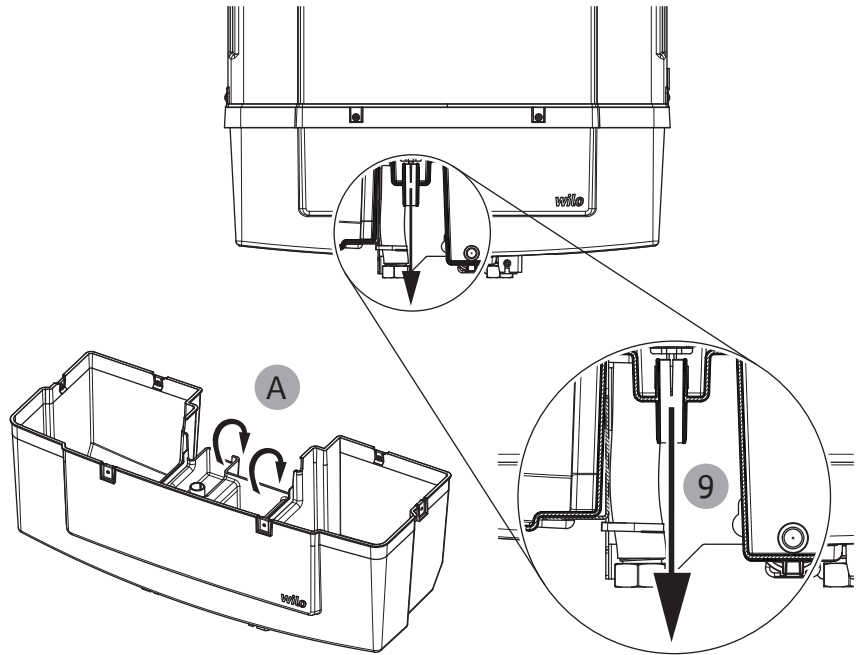

Fig. 11: Overflow
- Do not place or attach any devices or objects underneath the product. The system has an integrated overflow (Fig. 11, Item A).